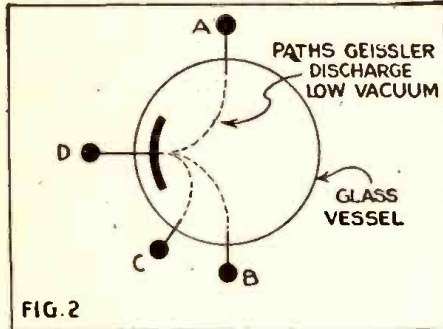

FIG. 2
A most interesting experiment conducted with a special tube can be made. This tube, Fig. 2, is provided with three anodes (ABC) and one cathode (D), the latter taking a partially spherical form.